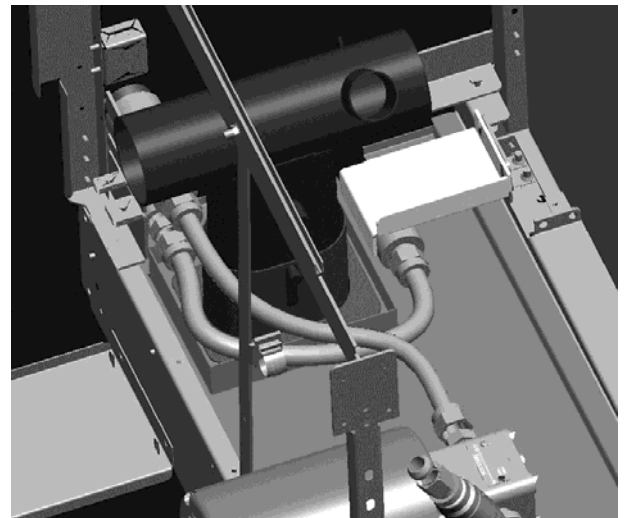

Figure 2: Route the flex line from the pan pickup to the bottom of the pre-filter. Route the flex line from the top of the pre-filter to the pump.
8. Mount the filter wrench holder and wrench. The left mounting hole will need to be enlarged. **See figure 2.**